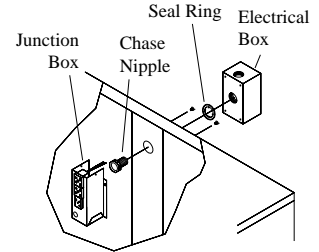

Fig. 5
• **Install weatherproof switch box.** Located inside the unit in a plastic bag is a switch box and cover, a chase nipple, a seal ring and a toggle switch. Remove the electrical junction box (Fig. 5) which is mounted on the inside of the center panel. From inside the unit, insert the chase nipple through the electrical access hole. Slide the seal ring over the chase nipple. Mount the switch box to the outside of the unit by threading the chase nipple into the switch box. Run the three switch leads through the nipple and into the switch box. Connect the green ground lead to the ground screw in the switch box.